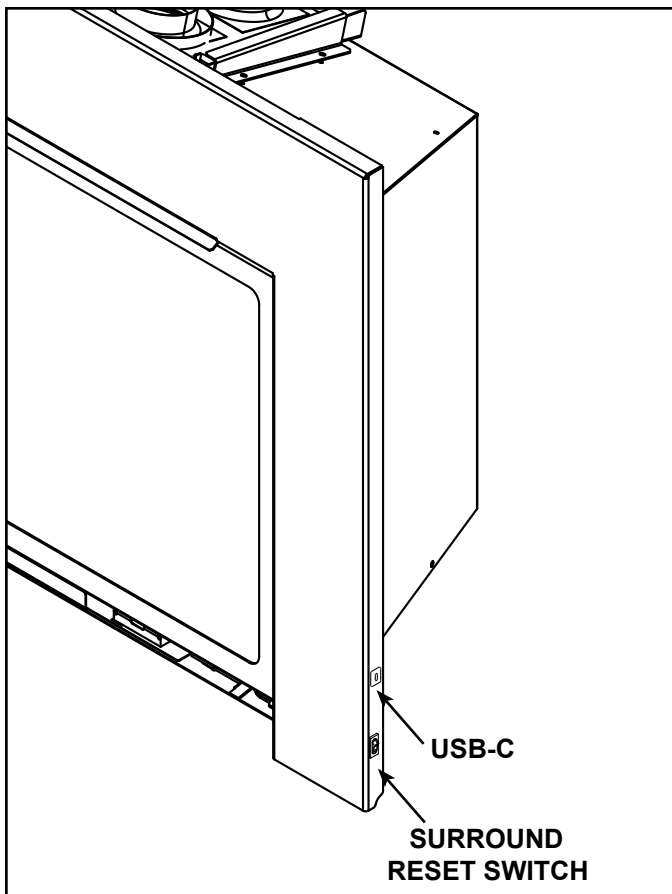

Figure 3.10 Surround Reset Switch and USB-C Battery Backup Port
- Toggle the appliance reset switch to the off position. See Figure 3.10 for reset switch location.